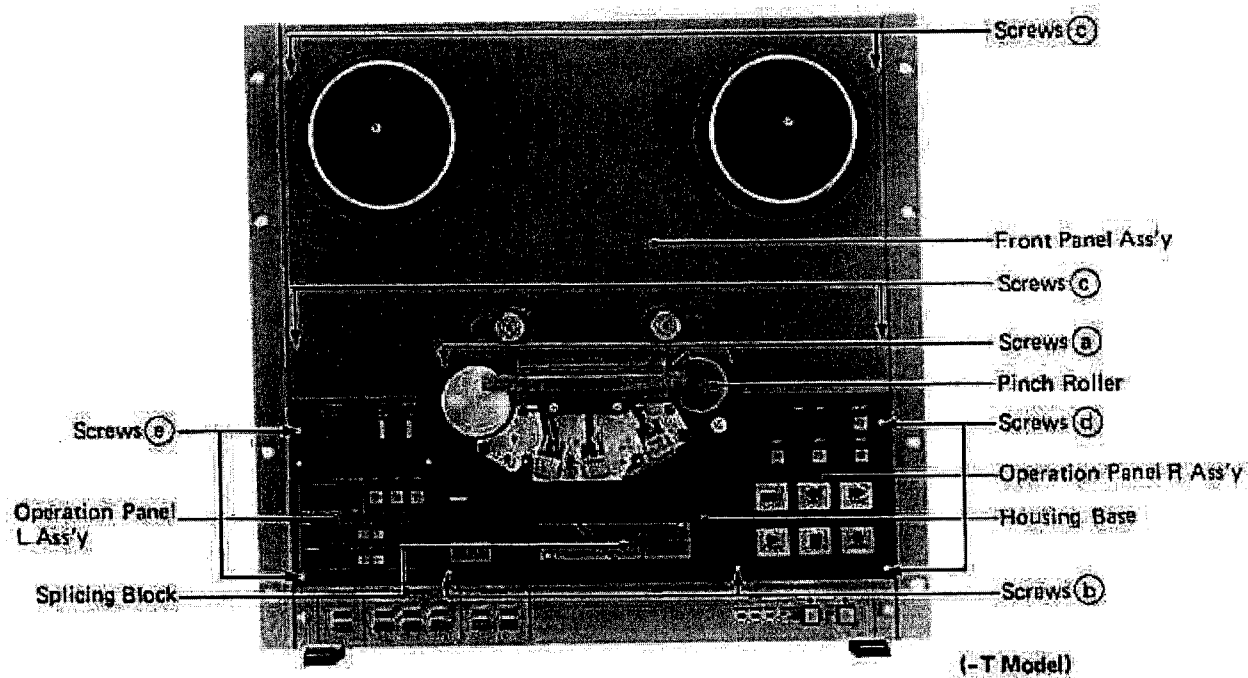

Fig. 9-3-2. Screw Locations for Front Panel Removal
2. Next, remove the screws (a) (b) located on the housing base, shown in Fig. 9-3-2.
2. Remove the four Allen screws (c) from both the left and right sides of the front panel, as shown in Fig. 9-3-2.